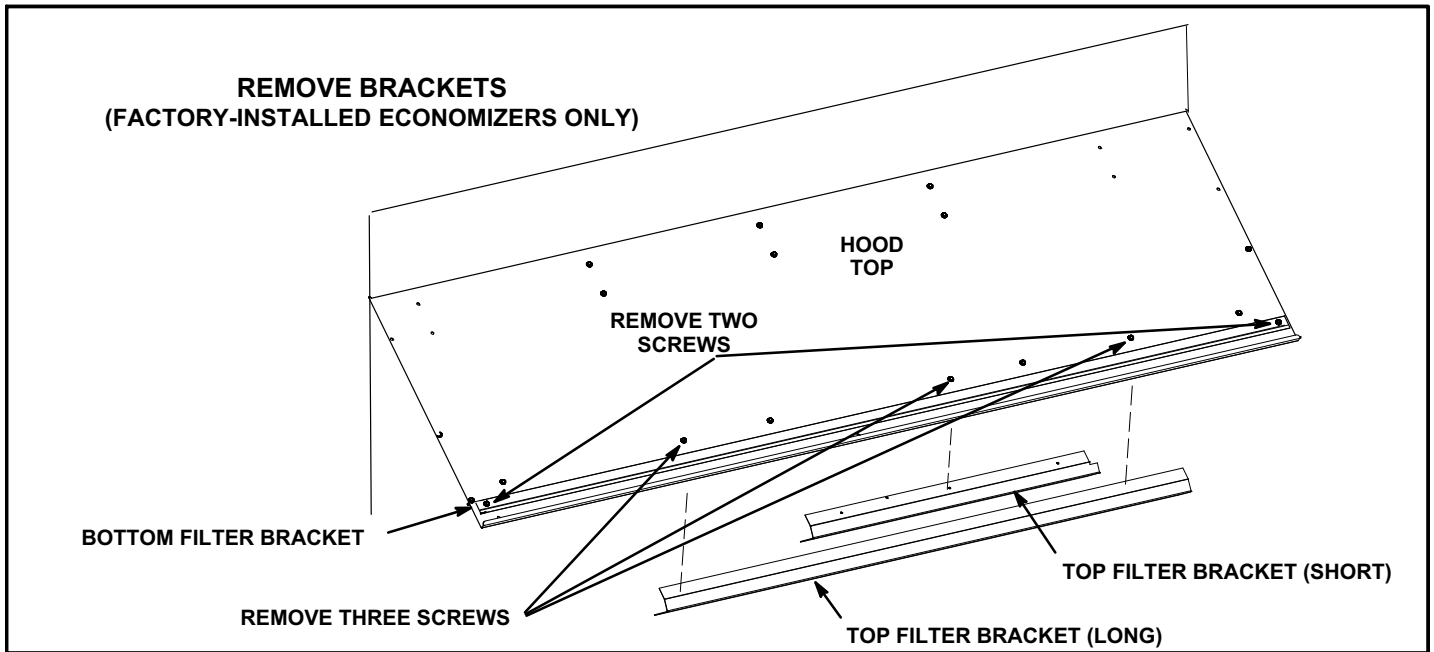

FIGURE 9
- 11- *Factory-Installed Economizers* - Remove the bottom filter bracket from the hood top assembly panel. See figure 9.
- 12- *Factory-Installed Economizers* - Remove the short and long top filter brackets from the hood top assembly panel. See figure 9.